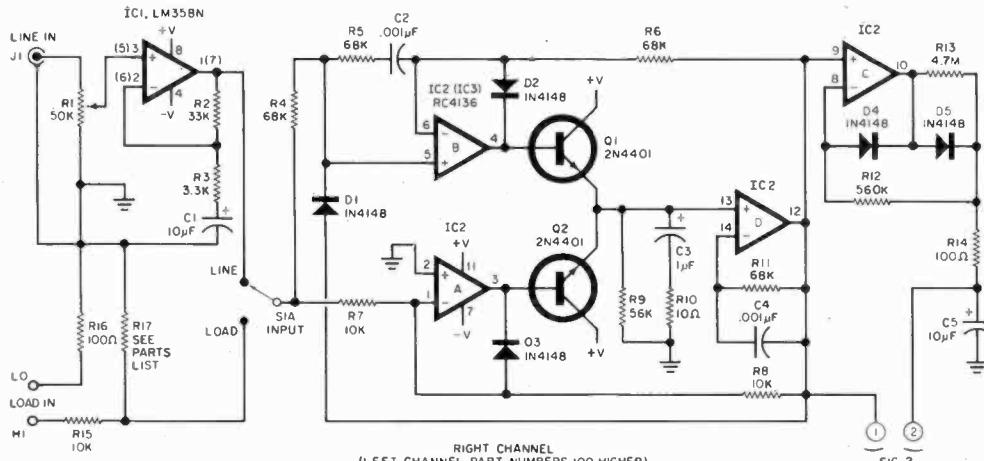

Fig. 1. Schematic diagram of one channel of the level meter.
**Circuit Operation.** Since both channels are the same, only the right channel is shown in the schematic in Fig. 1. Parts numbers for the left channel are the same but in the 100 series—that is, R1 in the right channel becomes R101 in the left channel.